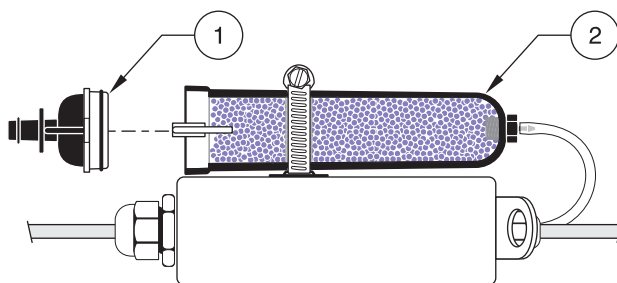

Figure 23 Removing the Bottom End Cap
1. Use a slight twisting motion to twist the bottom end-cap until its slots align with the retaining clips (Figure 23).